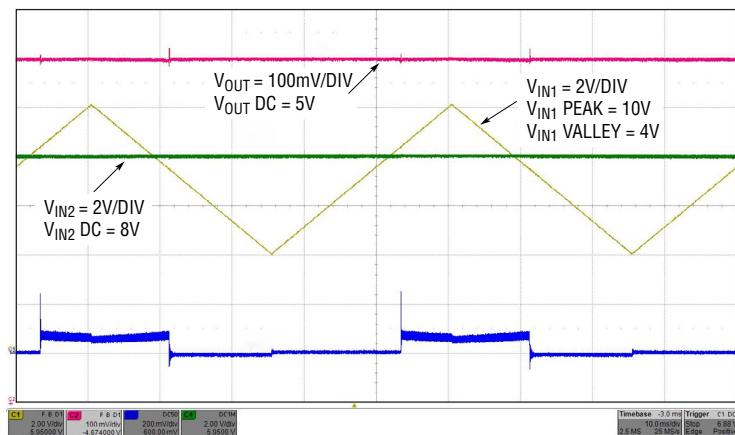

Figure 2. Ideal Diode Mode Operation
System level features include selectable IDEAL DIODE Mode (shown in Figure 2) or PRIORITY mode operation (shown in Figure 3)
- Now decrease the voltage on PS1 and observe that when the voltage on V_{IN1} falls below the voltage on PS2, PS1 stops supplying the power and PS2 takes over. See Figure 2 for typical performance for steps 8 and 9.